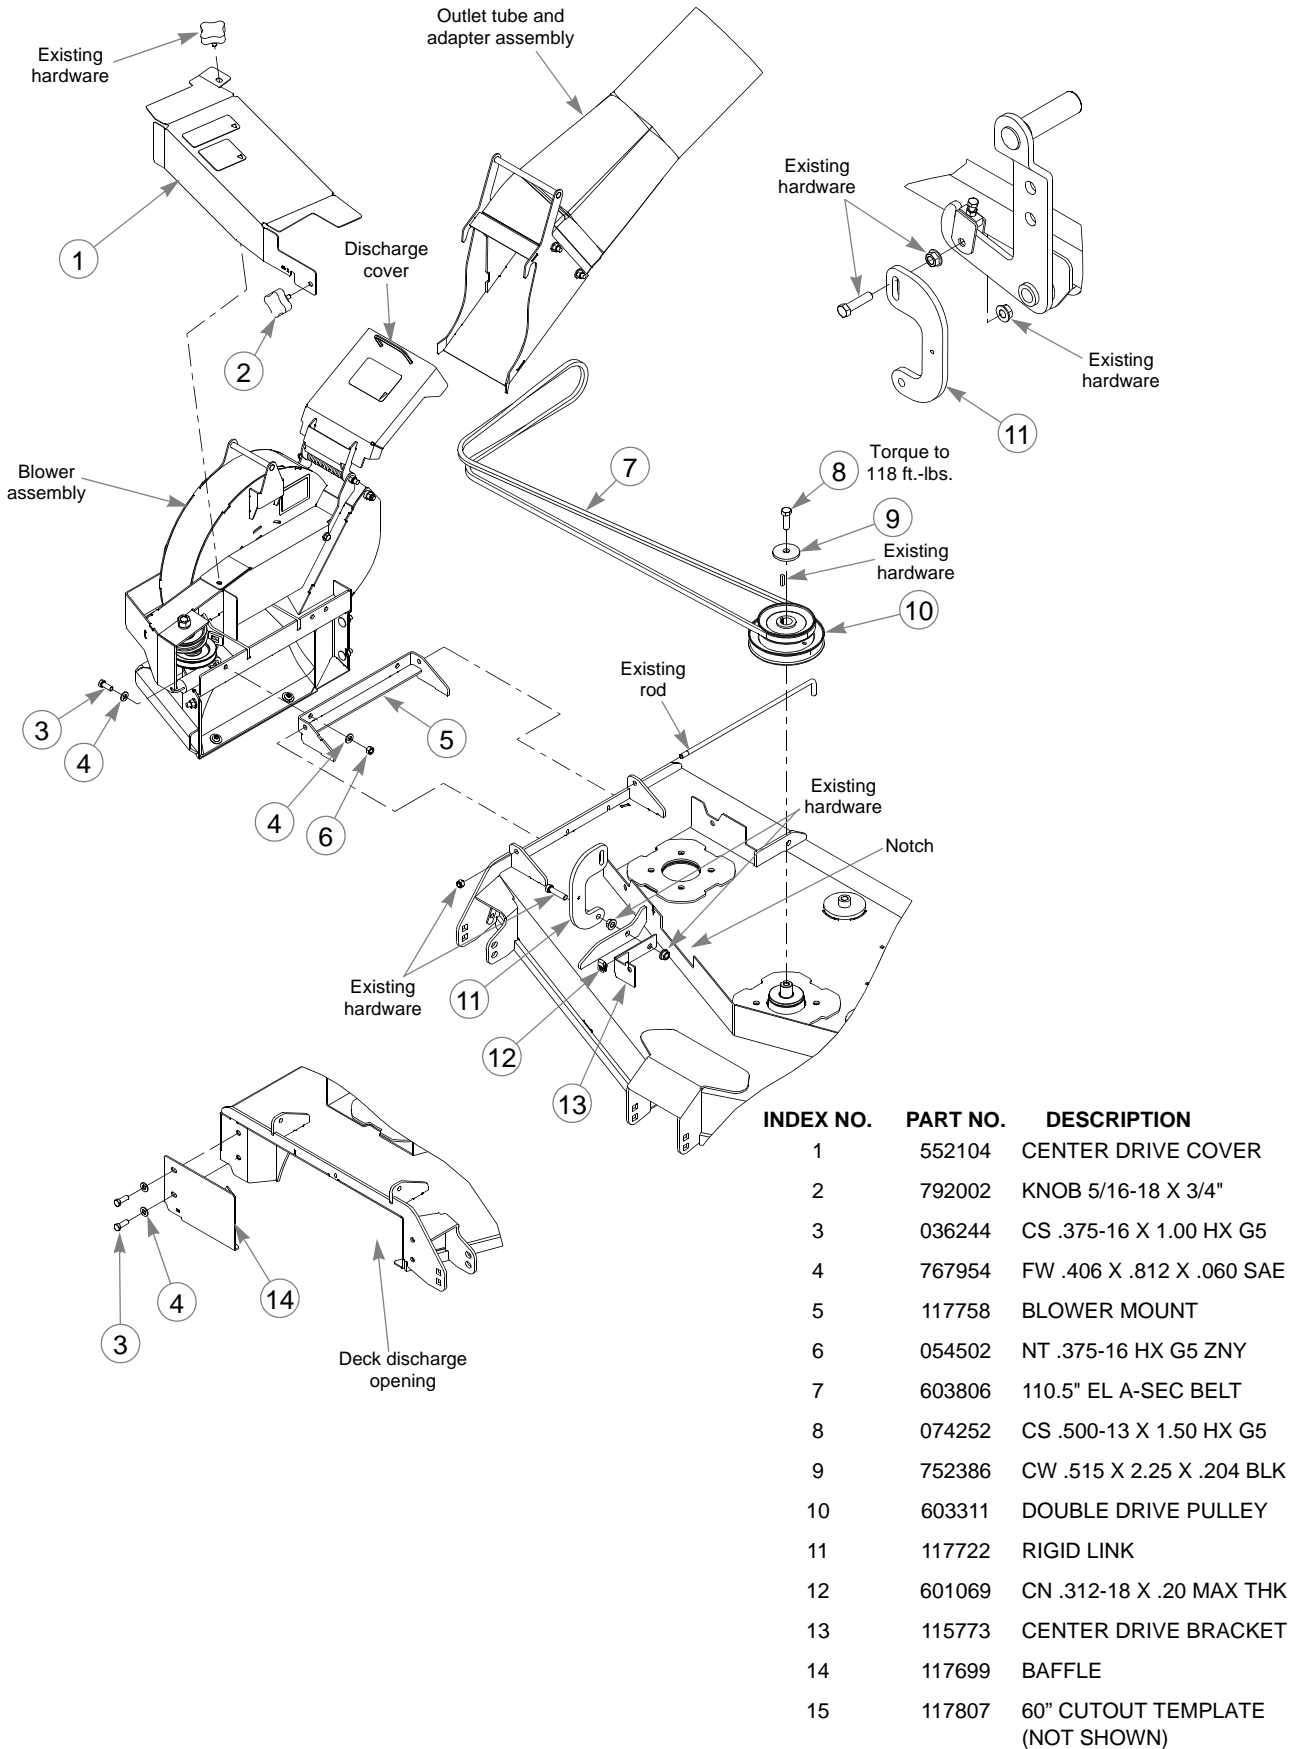
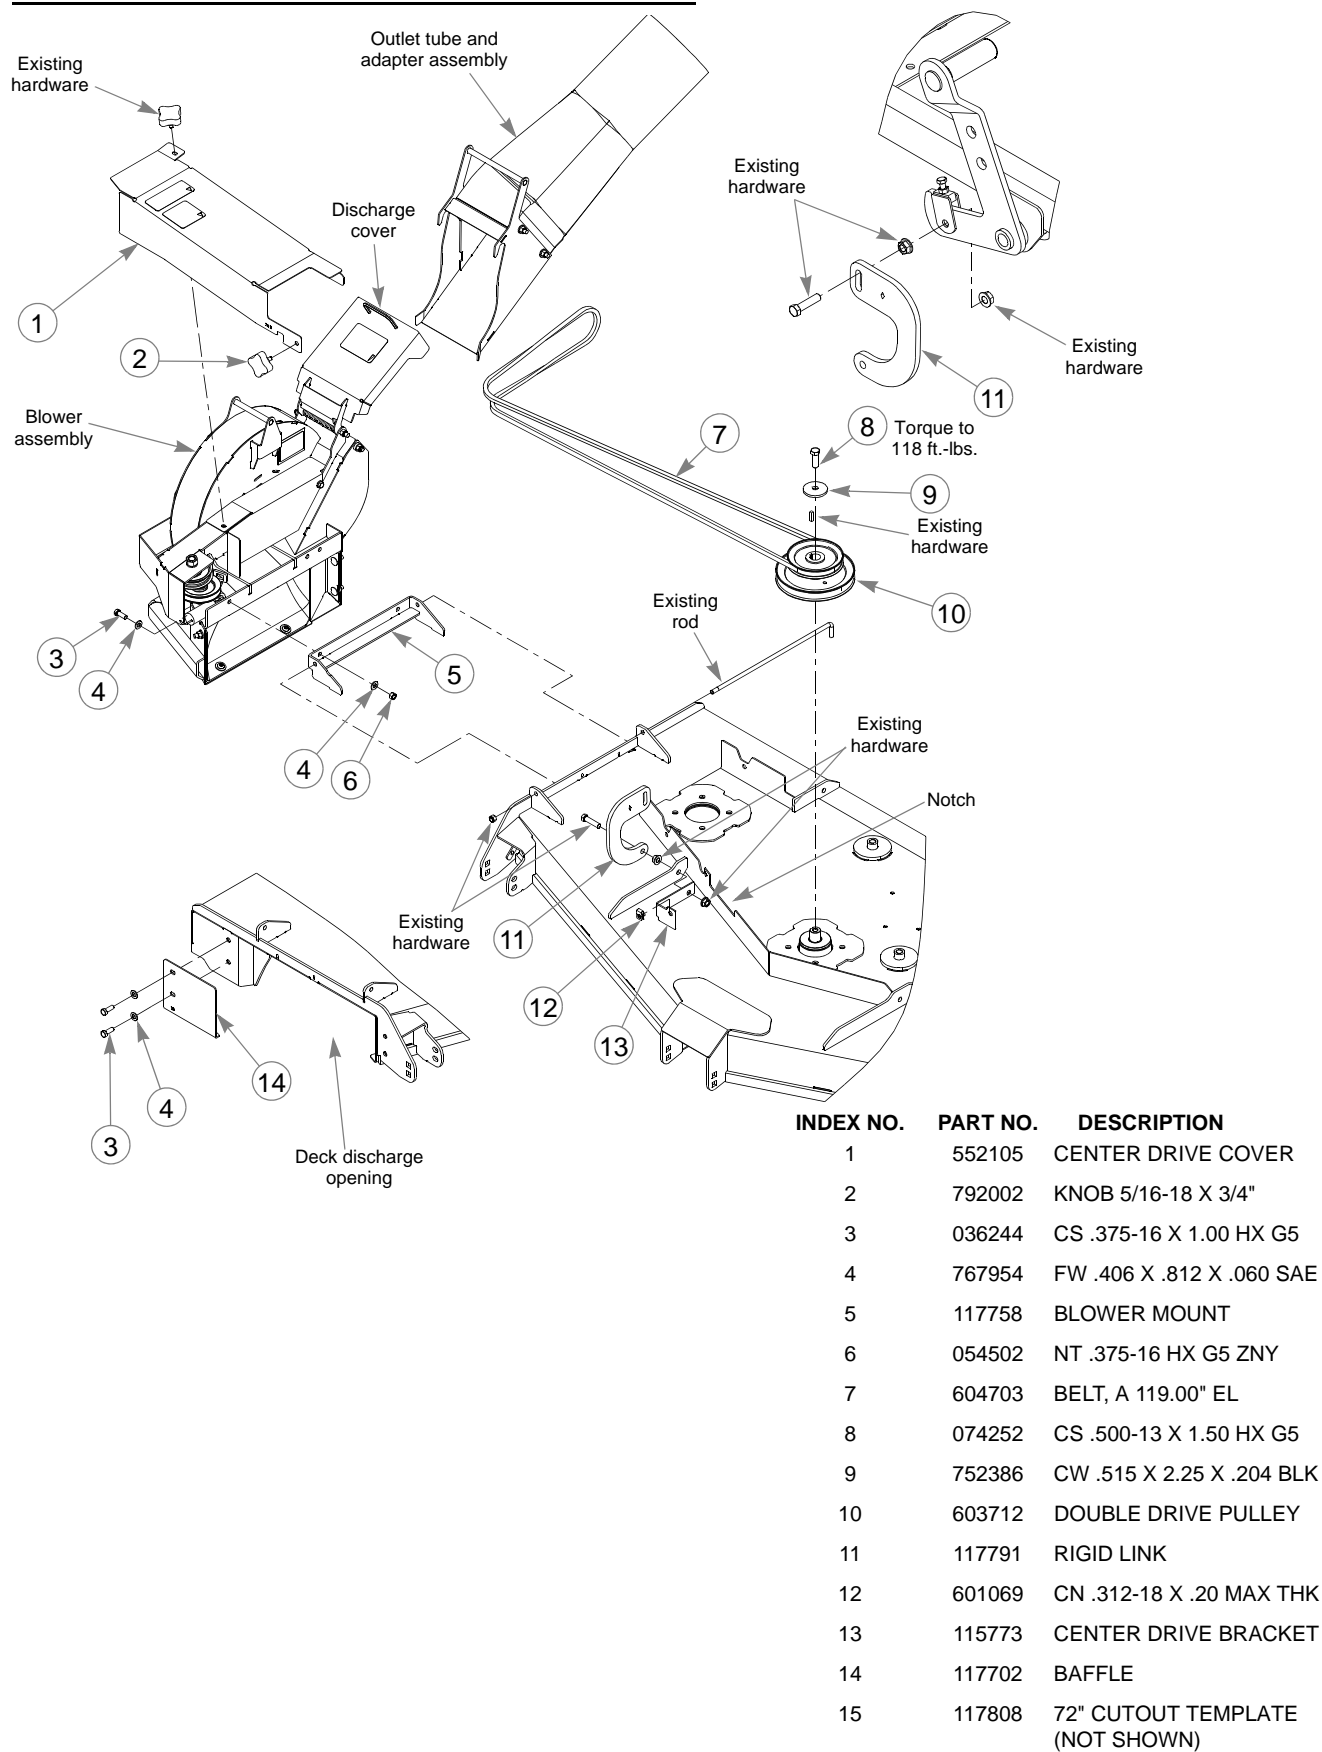

Figure 3-4
Figure 3-5
Replace the pulley with the double pulley and place the new cup washer between the head of the new bolt and the drive pulley. Thread the cup washer and bolt assembly into the spindle shaft. Torque the bolt to 118 ft.-lbs. Refer to Figure 3-3, Figure 3-4 or Figure 3-5.
5. Attach the blower baffle to the deck. Refer to Figure 3-3, Figure 3-4 or Figure 3-5.
6. Assemble the blower mount to the blower assembly. Refer to Figure 3-3, Figure 3-4 or Figure 3-5.
7. Attach the blower assembly to the deck by inserting the rod through the discharge chute bracket and the blower mount and secure with a nut. Refer to Figure 3-3, Figure 3-4 or Figure 3-5.
16. Remove the front right side deck lift chain and attach the rigid link to the deck lift arm. Refer to Figure 3-3, Figure 3-4 or Figure 3-5.
17. Attach the center drive cover. Refer to Figure 3-3, Figure 3-4 or Figure 3-5.
4. Raise the discharge cover on the blower housing. Slide the outlet adapter into place on the blower outlet. Secure the discharge cover in place with the discharge cover latching the rod handle of the outlet adapter. Refer to Figure 3-3, Figure 3-4 or Figure 3-5